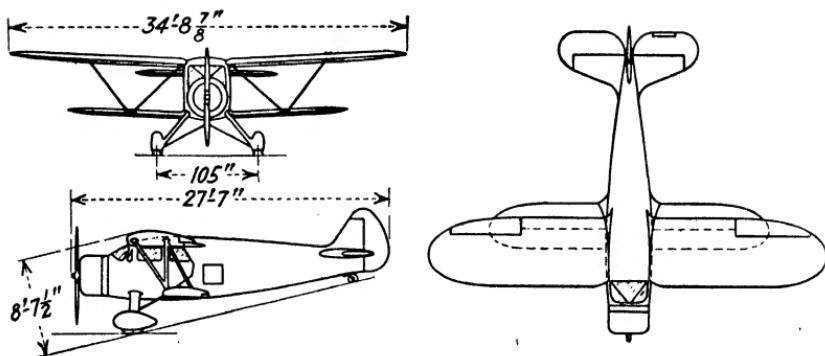

Fig. 169.—The Waco Model C. (Courtesy of Aviation.)
- 5.** Find the gross weight and the power loading of the Waco model C, powered by a Jacobs L-6 7 cylinder radial engine (see Figs. 169 and 170).